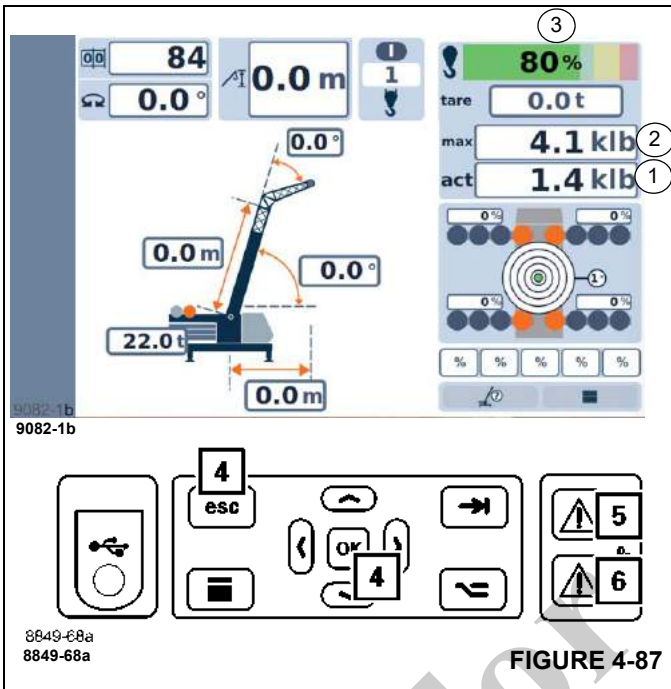

FIGURE 4-87
- After five seconds, you can switch off the buzzer tone using button (4), (Figure 4-87).
- Lamp (6), (Figure 4-87) will illuminate.
- Display (3), (Figure 4-87) shows the current degree of utilization, e.g. 100%; the bar is red.
- The value on display (2), (Figure 4-87) is equal to or greater than the value on display (1), (Figure 4-87).